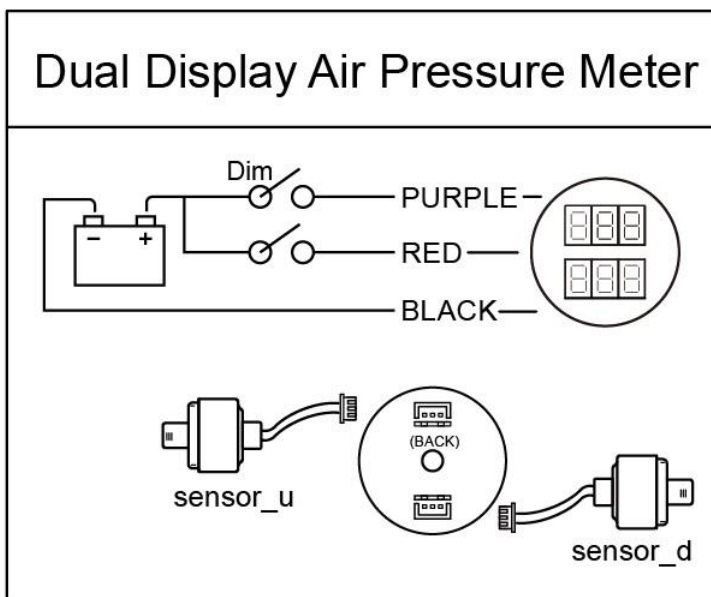

Figure 3.
1. After mounting the gauge, please see the enclosed installation diagram (**Figure 3.**).